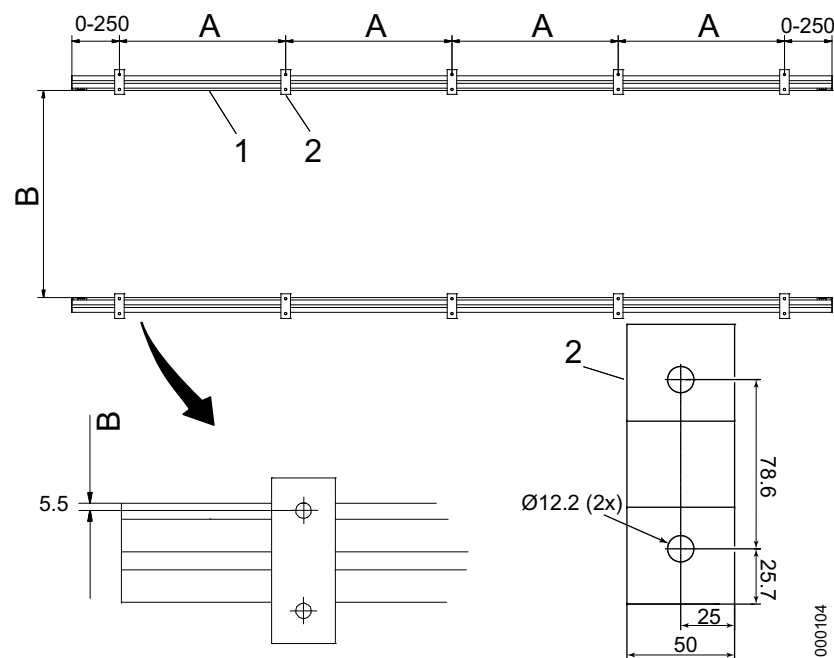

Fig. 4-3 Ceiling rails Y
The distance (B) between the ceiling rails Y is depended on the length of the traverse rails X, see **Fig. 4-3**.
The distance (B) between the distance plates is depended on the length of the traverse rail X, see **Fig. 4-3** and **Table 4-2**.